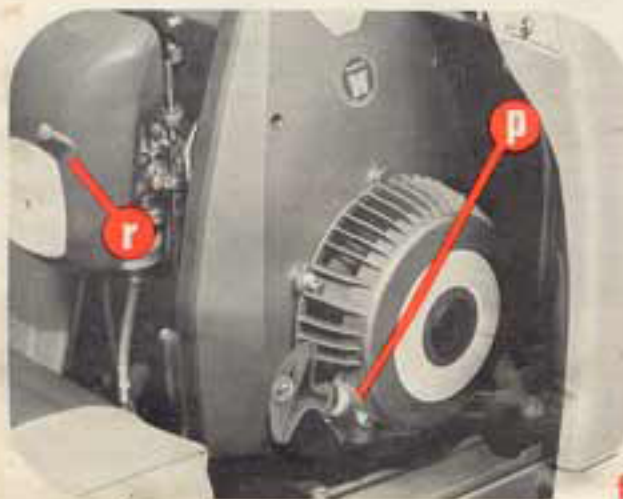

fig. 4
- C. The **CHOKE** is located on the carburetor filter (fig. 4, r).
- F. Each MOTO-SKI is equipped with a **REWIND STARTER** located on the right side below the dashboard, (fig. 4, p). On MOTO-SKI models equipped with an electric starter, the manual starter can be used in emergencies (e.g. the battery is defective).